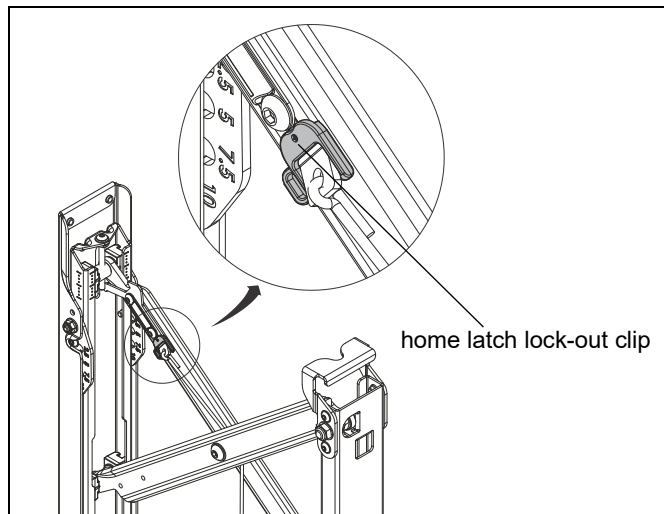

Figure 22
**NOTE:** There is a home latch lock-out clip on each upright (A and B) that prevents the uprights from being locked in the home position. If it is desired to lock uprights in the home position, these clips may be removed manually. (See Figure 22)